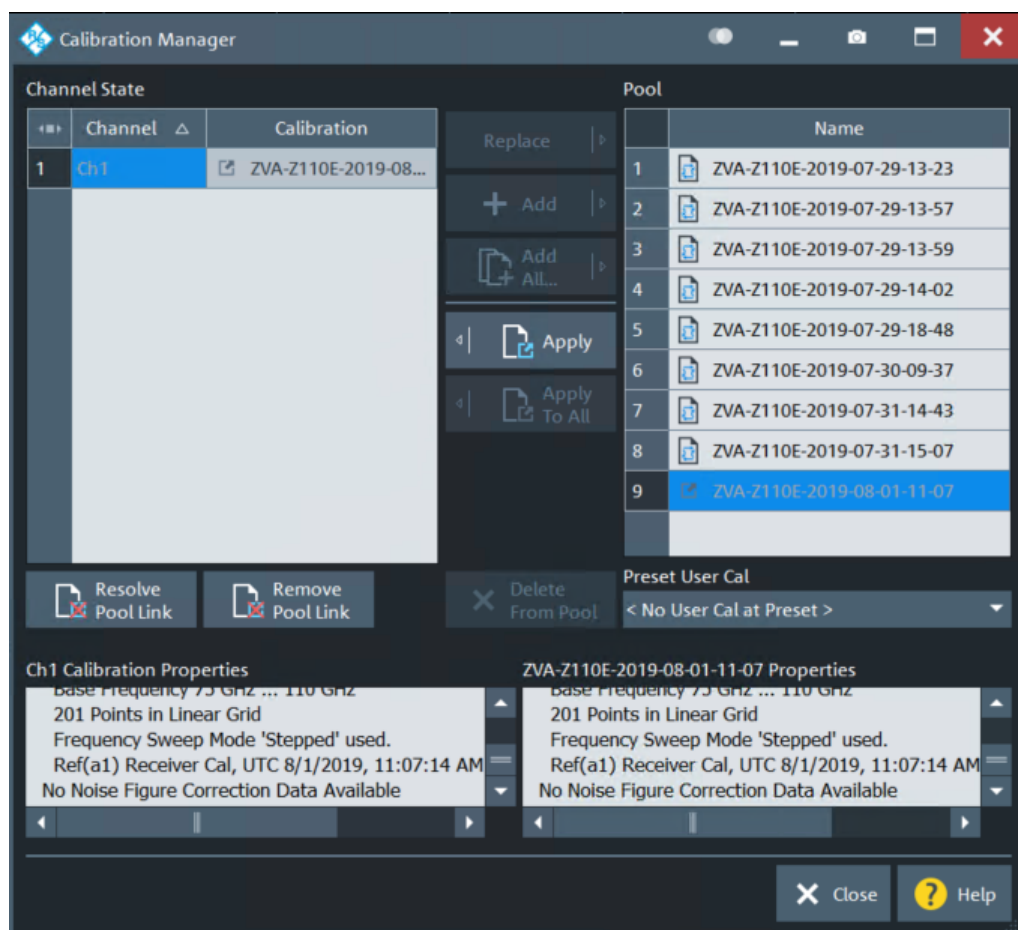

Figure 9-2: Reference receiver calibration (R&S ZNA firmware)
- Open the "Calibration Manager" dialog (Channel > [Cal] > "Use Cal" > "Cal Manager..."). Select the recorded receiver calibration from the "Calibration Pool" and apply it to the active channel (see Figure 9-2).
- Open the "Calibration Manager" dialog ("Channel > Calibration > Calibration Manager..."). Select the recorded receiver calibration from the "Calibration Pool" and apply it to the active channel (see Figure 9-2).